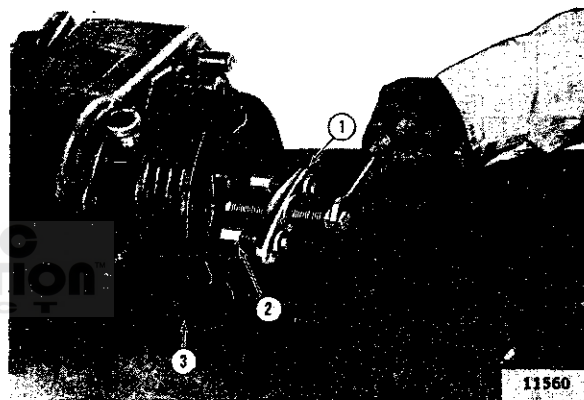

FIG. P-7—REMOVING TRANSMISSION BRAKE DRUM
a. To reline the brake shoes and make a major adjustment, first remove the four universal joint attaching nuts and lower the propeller shaft. Remove the retracting spring clevis pin and the spring clip. Remove the hug lock nut, the nut and washer from the transfer case output shaft. Both the universal joint companion flange and the brake drum may be readily removed by using puller Tool No. W-172 which is illustrated in Fig. P-7. Remove the two brake shoe retracting springs and the shoes.